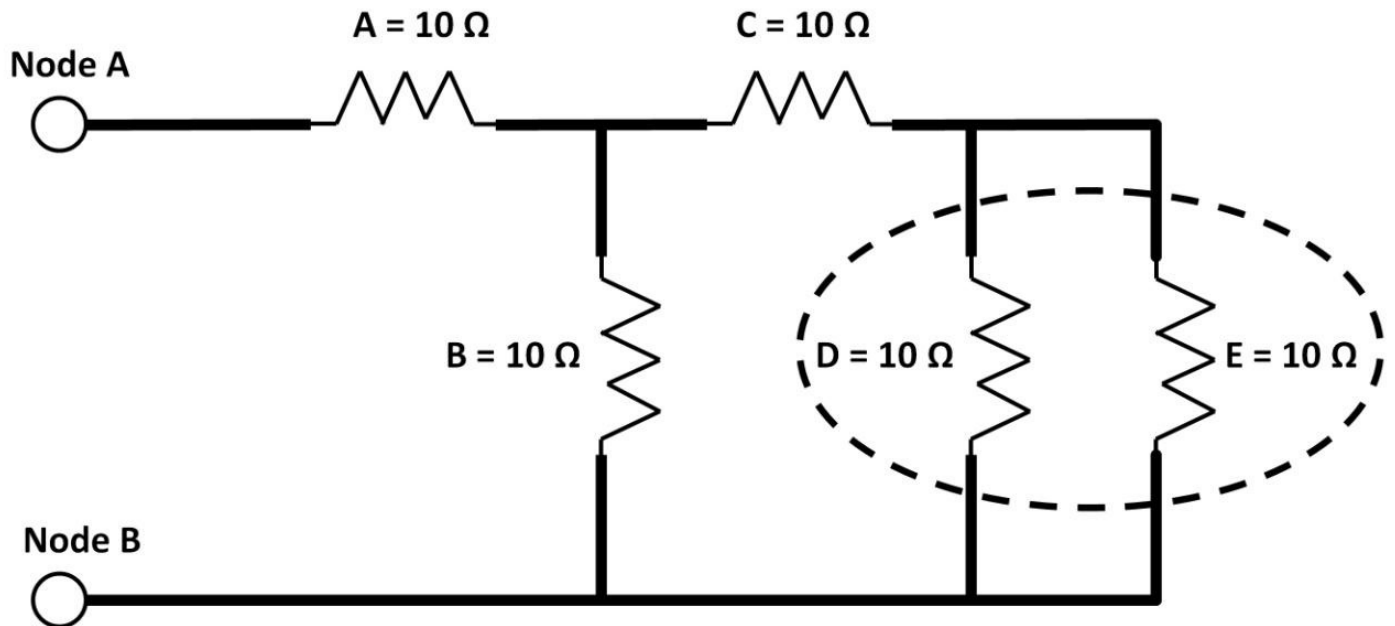

Figure 1.34: Equivalent D and E resistance
7) What is the equivalent resistance between node A and B in figure 1.34? We need to first consolidate this resistor network into one single resistor. Using series and parallel resistor rules, we start from the two parallel resistors D and E ($5\ \Omega$ using the parallel resistor rule).